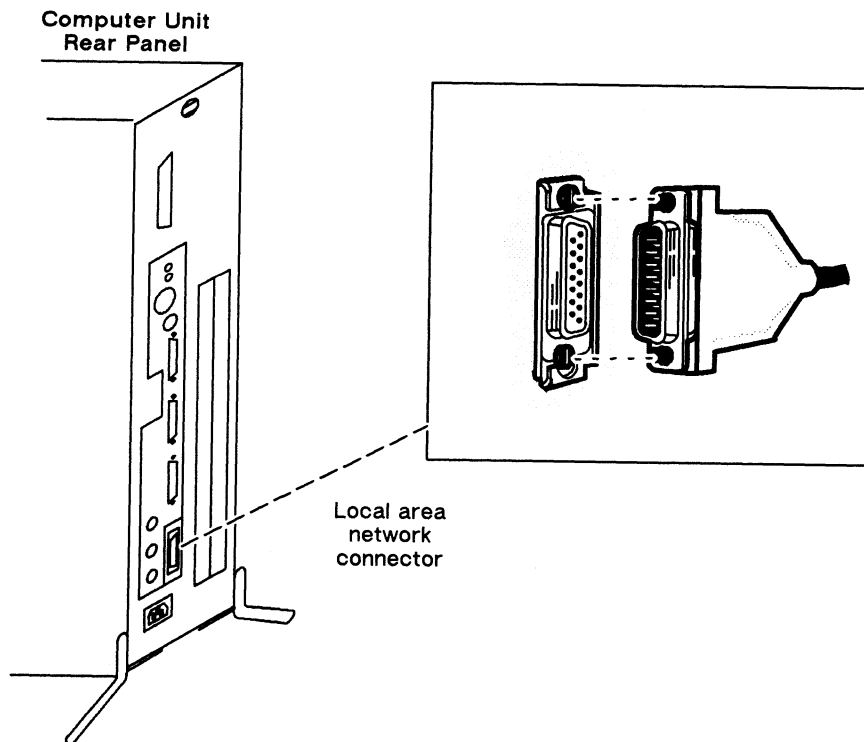

Figure 2-4 Connecting the LAN Transceiver Cable to the Computer Unit
1. Align the pins in the transceiver cable with the holes in the computer unit LAN connector, shown in Figure 2-4.